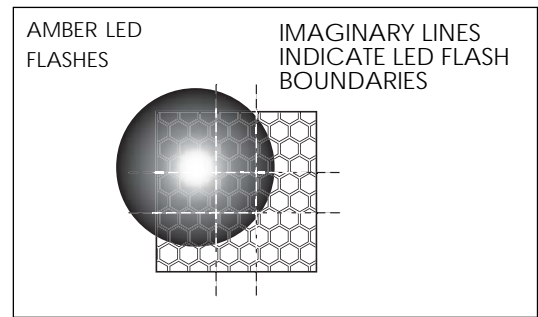

Fig 18
Turn one of the thumbwheels until one of the LEDs starts flashing. It does not matter whether you pan or tilt first or which way you turn the thumbwheel (*Figs 18 to 20* assume that panning is carried out first).
- If the amber LED illuminates, turn the thumbwheel the other way until either the red LED starts to flash (beam now close to centre) or neither LED flashes (beam is in the centre). Keep turning until the amber LED flashes then stop turning (*Fig 18*). Go to step 5.
- If the red LED flashes, wait until it stops and then turn a few steps more in the same direction. If the red LED flashes between steps, wait until it stops. Keep turning until the amber LED flashes then stop turning (*Fig 18*). Go to step 5.